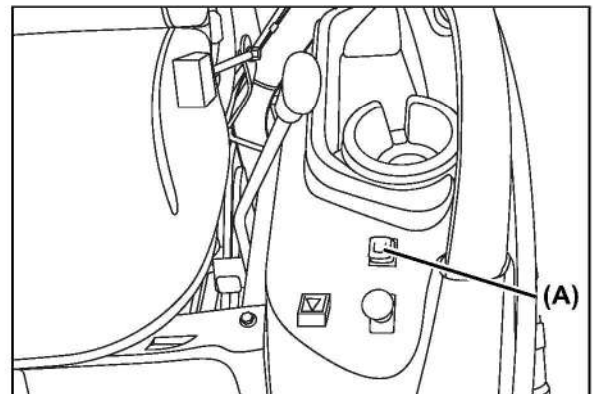

Fig 5-30
### (16) Reverse override switch (Fig 5-30)